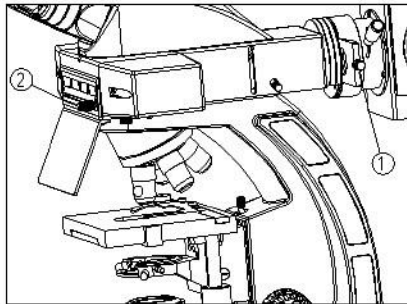

Fig. 25
Select the Fluorescence Filter Cube (Fig. 25)
Pull the filter flashboard ① to the most right position. (See Fig. 25)